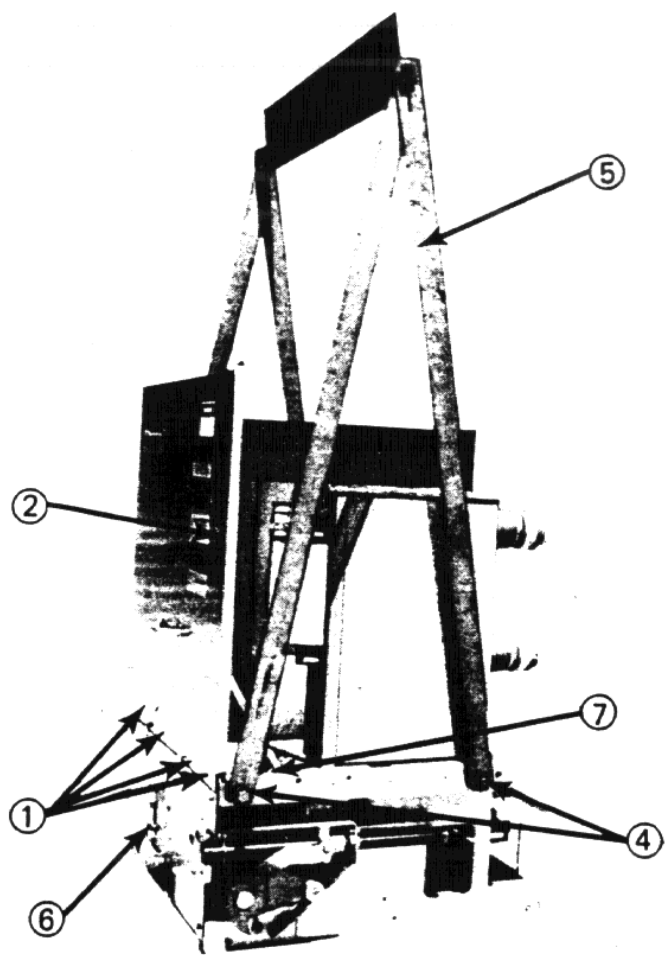

Fig. 1 — Circuit Breaker Assembly with Lifting Yoke Installed
Referring to Fig. 1, if it is necessary to raise or move the breaker, attach a lifting yoke (5) at points 4 on both sides of the truck, or a fifth wheel at point 6 to transport the breaker as required.
The front cover and interphase barrier assemble (2, Fig. 1) must be removed for access to and inspection of the vacuum interrupters, and their associate adjustments.
Removing Front Cover and Interphase Barrier (See Fig. 1)
Installing Front Cover and Interphase Barrier (See Fig. 1)